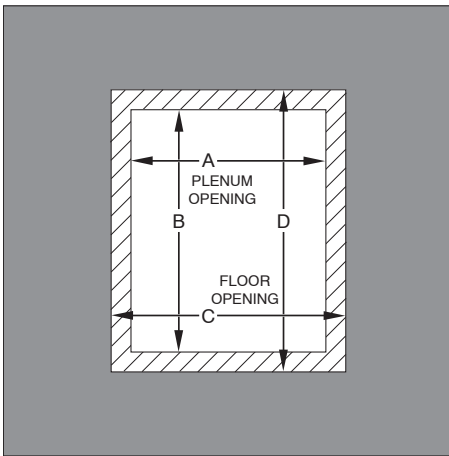

Fig. 21 - Floor and Plenum Opening Dimensions
2. Construct hole in floor per dimensions specified in Table 3 and Fig. 21.
3. Construct plenum to dimensions specified in Table 3 and Fig. 21.